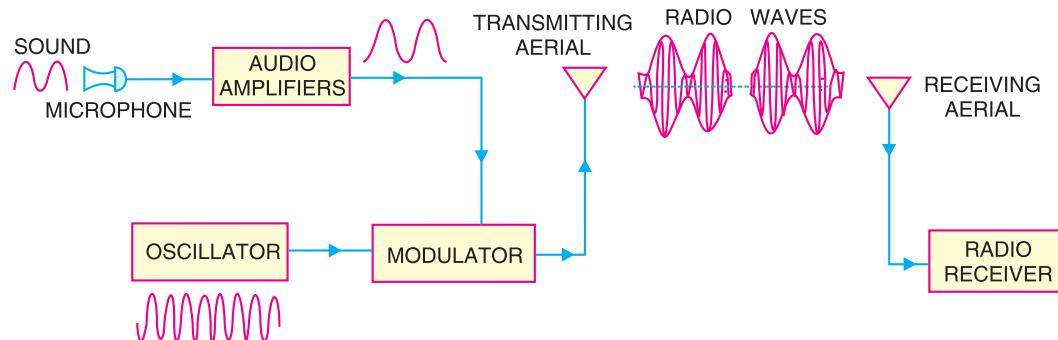

Fig. 16.1
Radio communication means the radiation of radio waves by the transmitting station, the propagation of these waves through space and their reception by the radio receiver. Fig. 16.1 shows the general principles of radio broadcasting, transmission and reception. As a matter of convenience, the entire arrangement can be divided into three parts viz. *transmitter*, *transmission of radio waves* and *radio receiver*.
**1. Transmitter.** Transmitter is an extremely important equipment and is housed in the broadcasting station. Its purpose is to produce radio waves for transmission into space. The important components of a transmitter are microphone, audio amplifiers, oscillator and modulator (See Fig. 16.1).
**(iii) Oscillator.** The function of oscillator is to produce a high frequency signal, called a *carrier wave*. Usually, a crystal oscillator is used for the purpose. The power level of the carrier wave is raised to a sufficient level by radio frequency amplifier stages (not shown in Fig. 16.1). Most of the broadcasting stations have carrier wave power of several kilowatts. Such high power is necessary for transmitting the signal to the required distances.